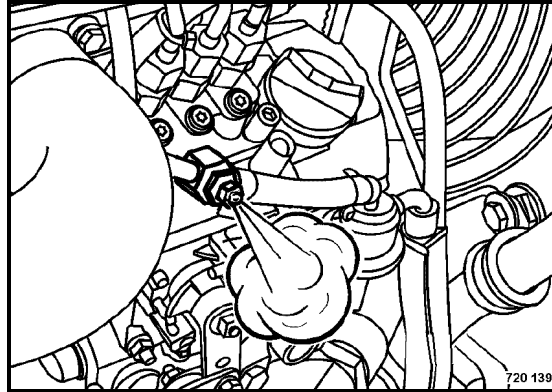

Fig. 119
- Open the bleeding screw on the injection pump (Fig. 119) and crank the engine with the starter, until fuel runs out without air bubbles.